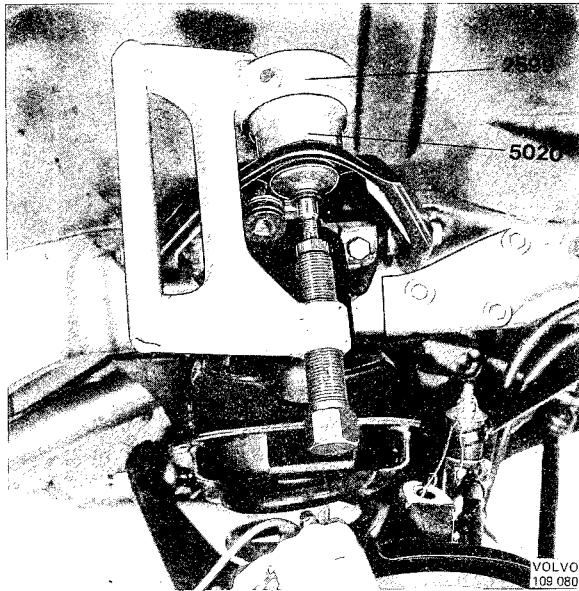

Fig. 6-21. Removing upper ball joint
3. Slacken but do not remove the nut for the upper ball joint. Tap with a hammer on the steering knuckle round the ball joint pin until it loosens from the axle. Remove the nut and suspend the upper end of the knuckle with a wire to avoid straining the brake hoses, see Fig. 6-21.
4. Slacken the nuts for the control arm shaft a  $\frac{1}{2}$  turn. Lift up the control arm slightly and press out the ball joint with press toll 2699 and sleeve 5020, see Fig. 6-21.
3. Slacken but do not remove the nut for the upper ball joint. Knock with a hammer on the steering knuckle round the ball joint pin until it loosens from the axle. Remove the nut and suspend the upper end of the knuckle with a wire to avoid straining the brake hoses, see Fig. 6-21.